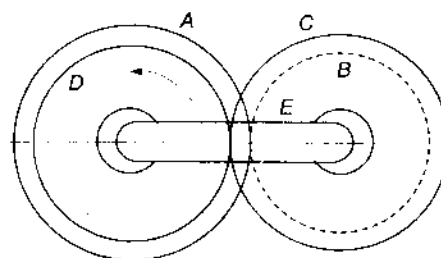

Fig.12.27 Epicyclic gear train
- 6 An epicyclic gear train shown in Fig.12.27, consists of two sun wheels A and D with 28 and 24 teeth respectively, engaged with a compound planet wheels B and C with 22 and 26 teeth. The sun wheel D is keyed to the driven shaft and the sun wheel A is a fixed wheel coaxial with the driven shaft. The planet wheels are carried on an arm E from the driving shaft which is coaxial with the driven shaft. Find the velocity ratio of gear train. If 1.2 kW is transmitted and input speed is 120 rpm, determine the torque required to hold the sun wheel A .